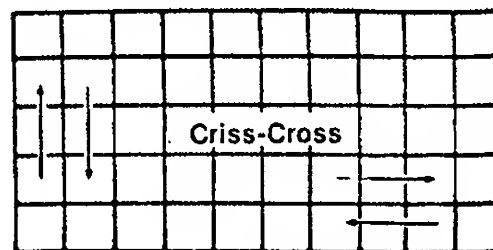

FIGURE 16.
- If you are not going to remove grass clippings, a mowing pattern is of no concern. However, you should criss-cross or generously overlap each pass to avoid missed spots. See figure 16.